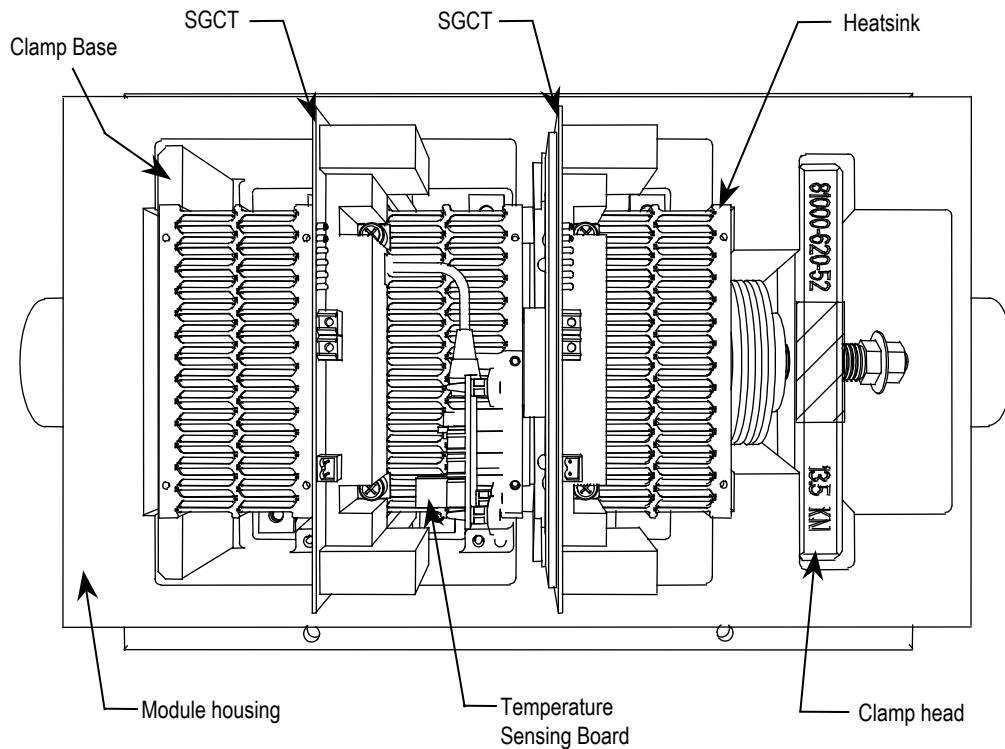

Figure 6.14 – 2-Device PowerCage
4. Remove the device (SGCT or SCR) that is secured to the heatsink with the thermal sensor. (Refer to Figure 6.14., 6.15, 6.16, 6.19 or 6.20).